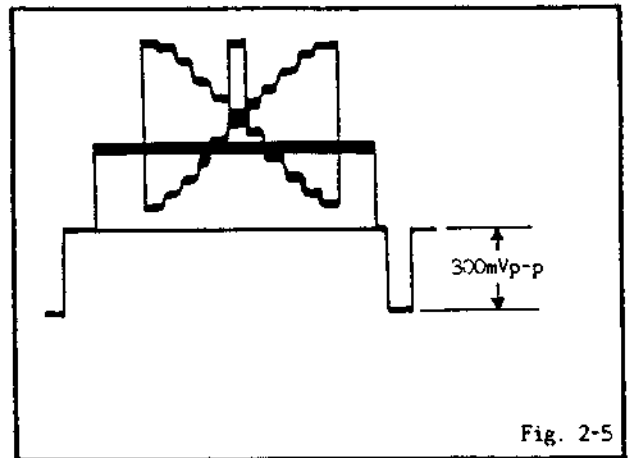

Fig. 2-5
3. Adjust VR8011 as the sync level will be  $300 \pm 0, -10 \text{mVp-p}$ . (Refer to Fig. 2-5)